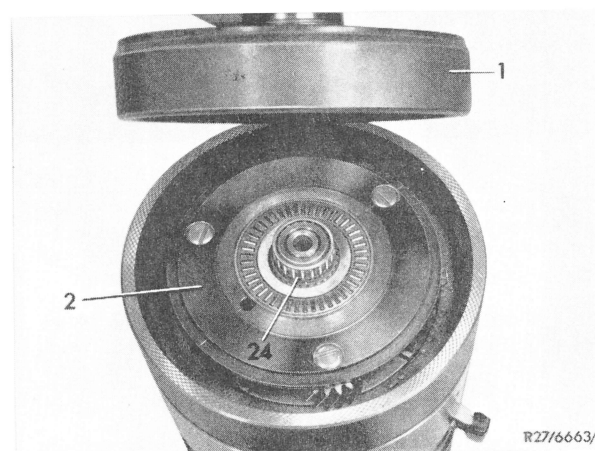

Fig. 3
5 Remove planetary carrier first gear assembly (2) (Fig. 3).